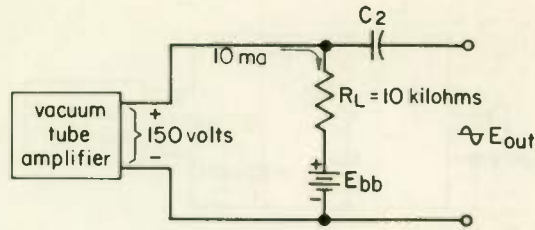

Fig. 27
1. Figure 27 shows a resistor used to replace a choke in the output circuit of a vacuum-tube amplifier. You find that this amplifier needs 150 volts d-c at its output terminals and will draw 10 ma of d-c current through R_L . Since you want R_L to present a large impedance to the a-c output of the amplifier, you choose it to be 10 kilohms. How big must the supply voltage E_{bb} be for the amplifier to operate properly? (a) _____ . If an inductor were used in place of R_L , the proper value for E_{bb} would be (b) _____ volts.